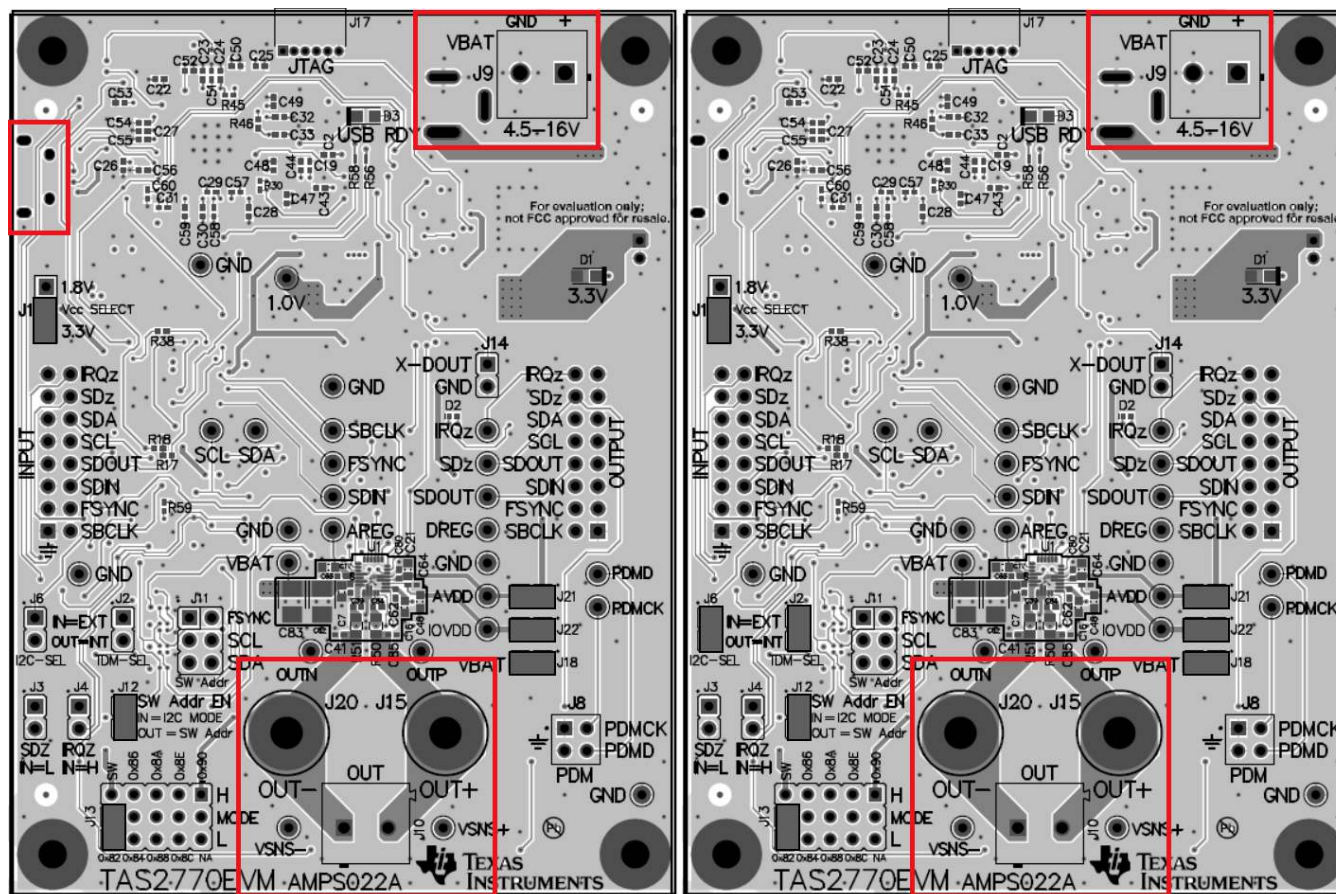

Figure 4. Multi-Channel Setup
4. The leftmost board should have jumpers set to match the mono configuration. On all other boards, insert a jumper on J2 and J6. PPC3 will recognize 1, 2, 4, or 8 channel setups. See Figure 4 for details.